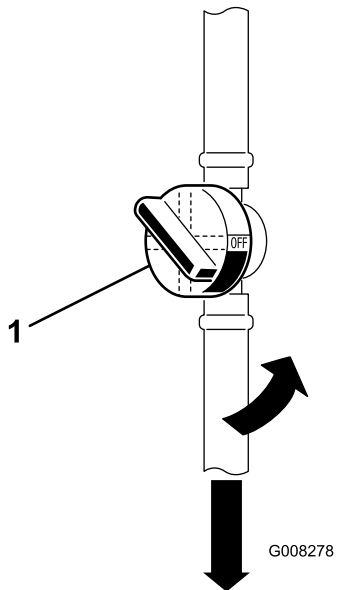

Figure 30
6. Close the fuel shut-off valve (Figure 30).
7. Squeeze the ends of the hose clamps together and slide them away from the old fuel filter (Figure 30).